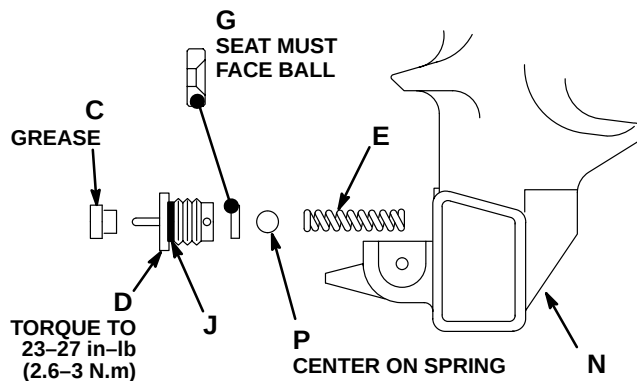

Fig 9
11. Grease the seat (G) and place it on the fluid housing so the seat which is formed on the inside diameter faces out. See Fig 9.
12. Install the spring (E) in the spring cavity of the valve handle (N), then install the ball (F) so it is centered on the spring. See Fig 9.
13. Place the o-ring (J) around the fluid housing. Pushing lightly with your fingers, start the threads of the housing into the valve handle. Torque the housing to 23-27 in-lb (2.6-3 N.m). See Fig 9.
15. Grease the cap (C) and place it on the end of the needle. See Fig 9.